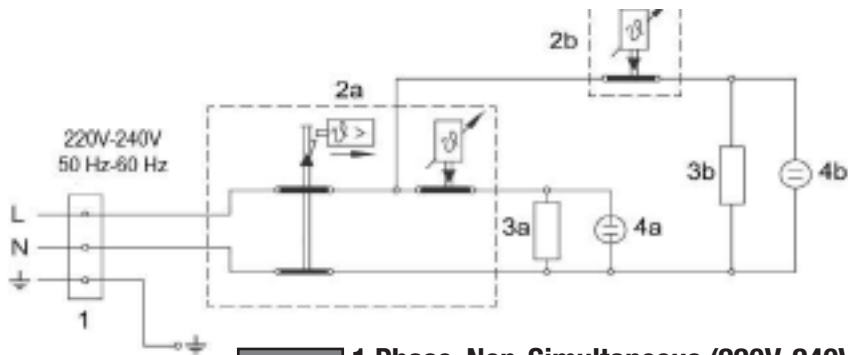

Fig. 5 1 Phase, Non-Simultaneous (220V-240V)
3. Attach wiring to the terminal block per Figures 5 and 6 depending on the phase of your unit.